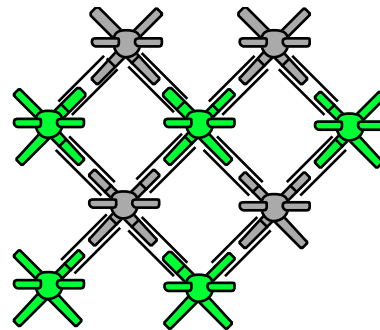

Fig. 2 Layers 2 and 4 of model.
3. Construct layers 2 and 4 as shown in Fig. 2.